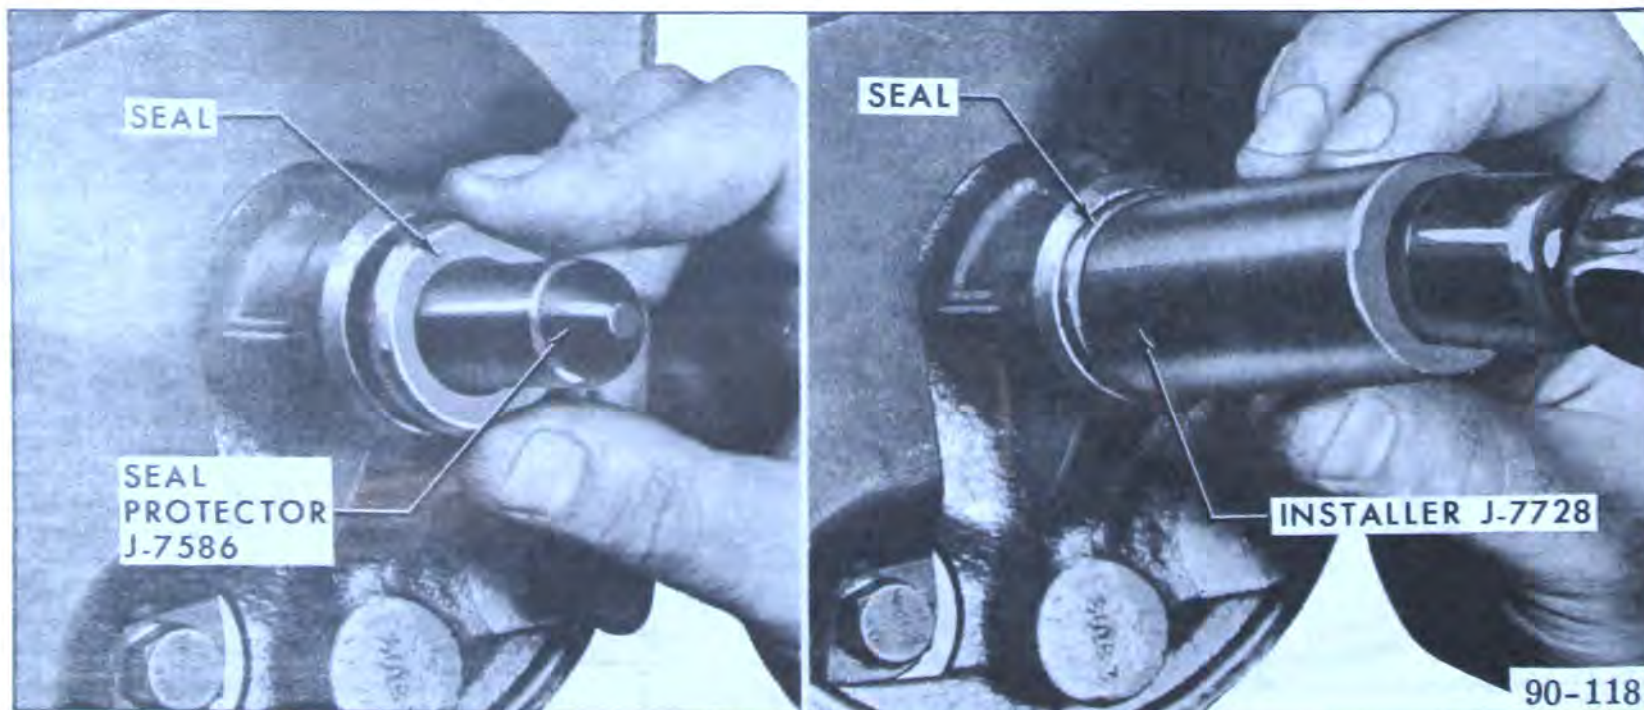

Figure 90-64 Installing Oil Pump Shaft Seal
1. Place seal protector J-7586 over shaft. Lubricate new seal with Buick Power Steering Oil or equivalent and drive in pump housing, spring side first, with installer J-7728. See Figure 90-64. Just bottom seal in housing. Excessive force must not be used when driving seal in place.